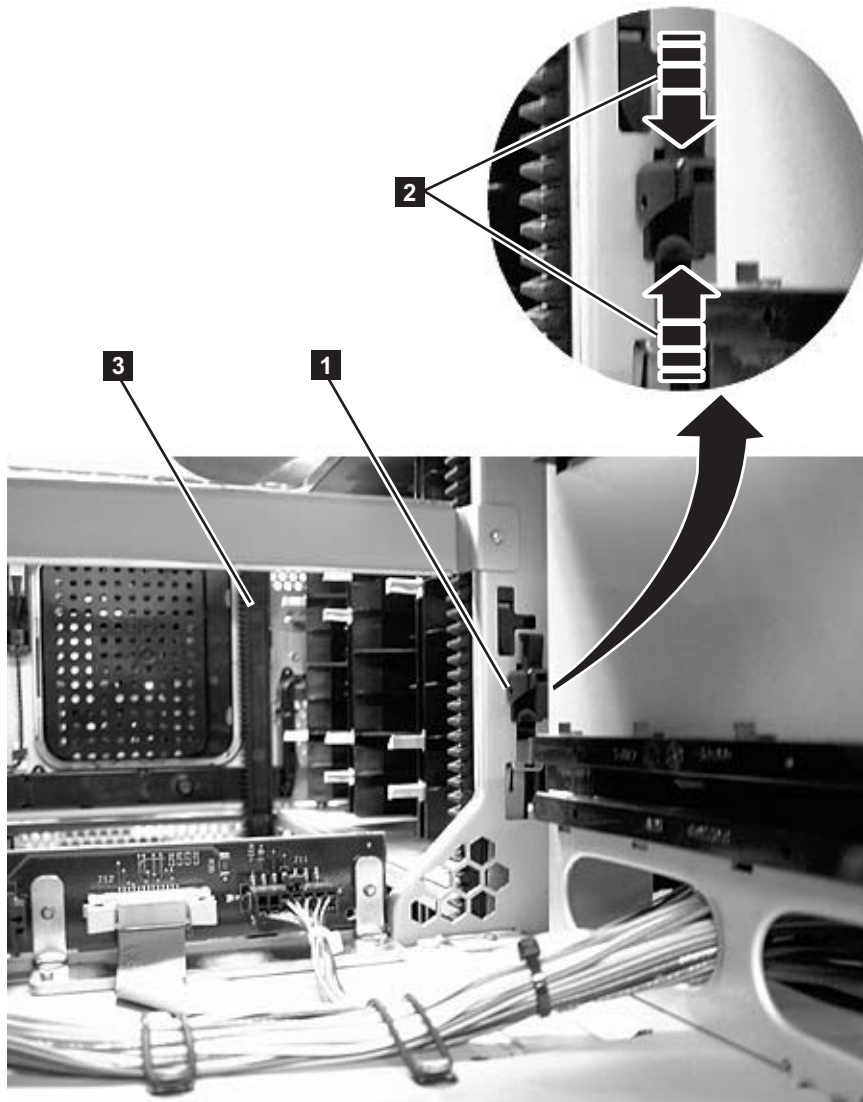

Figure 12-10. Gear rack
In order for the picker to move from one unit to the next in a multi-module library, the front (**3** in Figure 12-10 on page 12-14) and rear (**1** in Figure 12-10 on page 12-14) gear racks in the control module must be properly aligned with the gear racks in the expansion module.
Verify that the front (**3** in Figure 12-10) and rear (**1** in Figure 12-10) gear racks are properly aligned and positioned.
- In a control module, verify that the gear racks are in the down position. Pinch the gear rack locking mechanism (**2** in Figure 12-10) and push the gear rack down. Ensure that the lock is not engaged in the hole in the frame.
- Verify that the gear racks are in the down position. Pinch the gear rack locking mechanism (**2** in Figure 12-10) and push the gear rack down. Ensure that the lock is not engaged in the hole in the frame.
1. Slightly push up and pinch the gear rack locking mechanism (**1** in Figure 12-10 on page 12-14) to unlock the gear rack in the control module.
2. While pinching the gear rack locking mechanism (**2** in Figure 12-10 on page 12-14), push the gear rack down until it aligns with the gear rack in the expansion module, then release your hold on the locking mechanism.